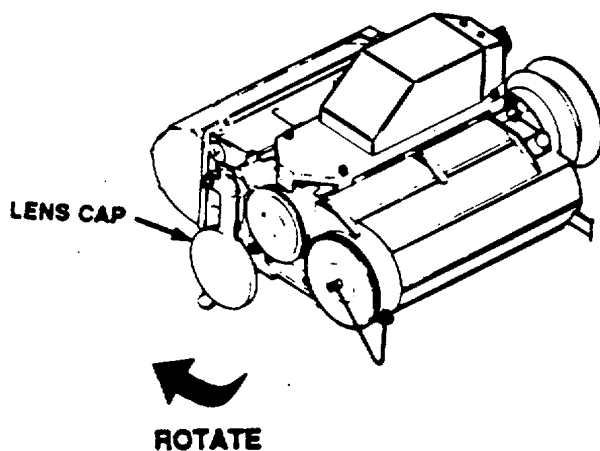

Figure 2-10. Lens Cap
- Rotate front lens cap away from the objective lens and laser window (Figure 2-10)